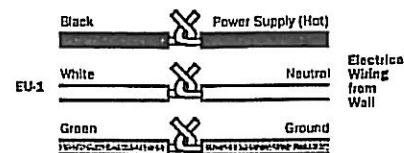

Figure 3. EU-1 Wiring connections.
- F. Connect the electrical wiring with wire nut connectors as indicated in Figure 3. **NOTE:** The wire nut connectors must be UL approved and must be able to connect 14/12 gauge wires.